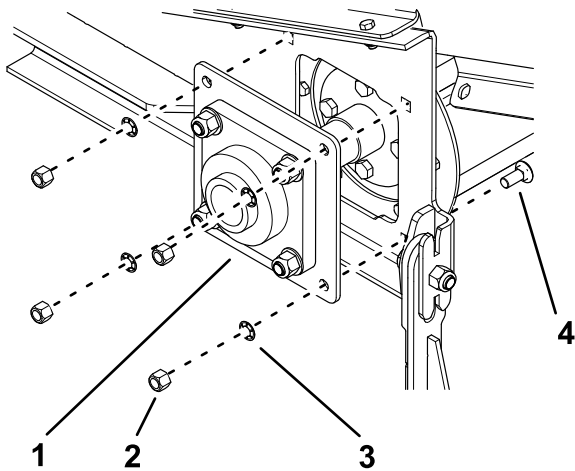

Figure 12
- Bolt—1/2 x 1-3/4 inch (2)
- Locknut—1/2 inch (2)
- On the opposite side of the broom, remove the 4 bolts (1/2 x 1-1/4 inch), 4 spring washers, and 4 locknuts (1/2 inch) securing the bearing mount plate (Figure 12). Remove the bearing mount plate with the bearing still attached.
7. Install the bearing mount plate (Figure 12).